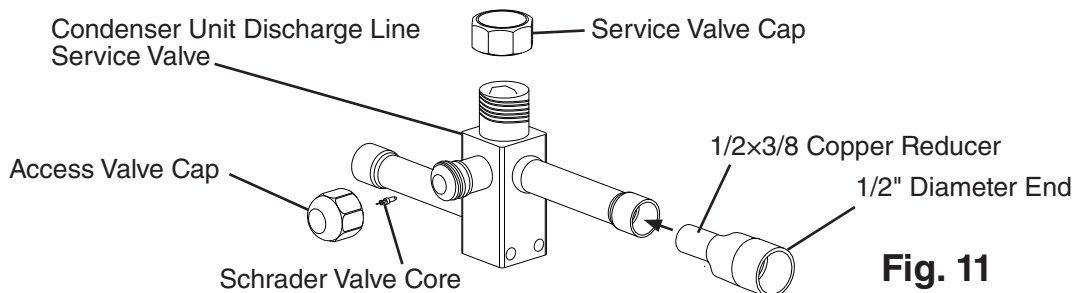

Fig. 11
- 5) Place the 3/8" end of a 1/2"x3/8" copper slip reducer (not provided) in the icemaker discharge line service valve, then place the discharge line copper tube into the 1/2" end of the 1/2"x3/8" copper slip reducer. See Fig. 11.
- 9) Place the 3/8" end of a 1/2"x3/8" copper slip reducer (not provided) in the condenser unit discharge line service valve, then place the discharge line copper tube into the 1/2" end of the 1/2"x3/8" copper slip reducer. See Fig. 11.